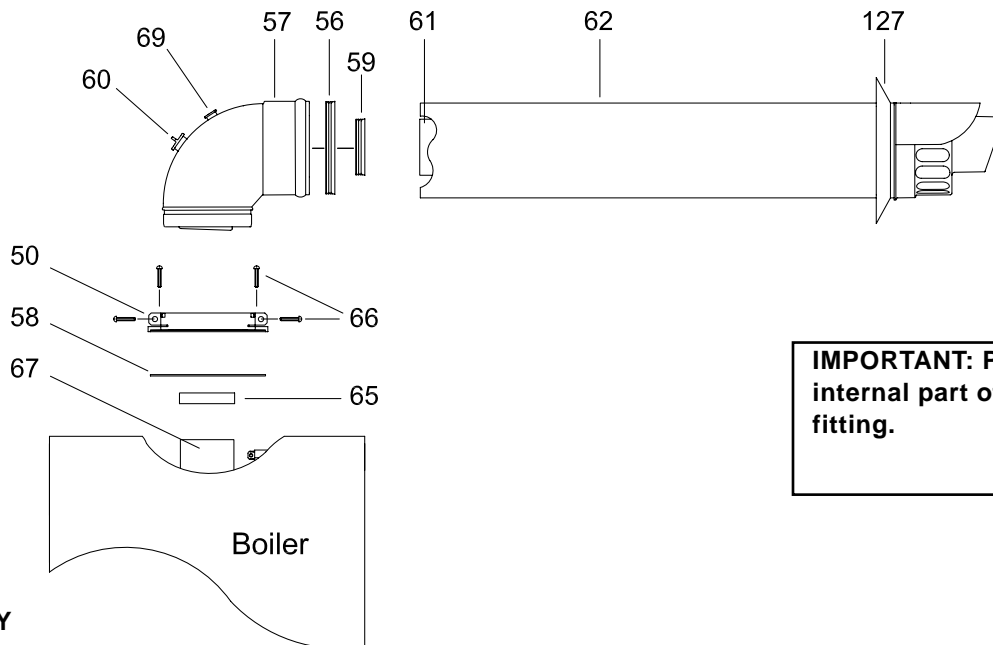

Fig.17
Important: Make sure that the dia 60 mm on the elbow header is inserted fully into the flue manifold, and the flue manifold rubber seal is correctly fitted. (Fig 17 item 65)
Important: Make sure that the dia 60 mm on the elbow header is inserted fully into the flue manifold, and the flue manifold rubber seal is correctly fitted. (Fig 17 item 65).
If an extension must be shortened, this must be done from the straight end, and not from the widened or tapered end. To measure the pipeline properly all components must be assembled and total length measured before cutting. The straight end of the extension connects to the boiler. The flue output and air intake pipes fits into the boiler header until it stops (fig.17 - 18).
This part of the installation manual covers the installation and fixing instructions of the twin flue eccentric flue duct systems only. When ordering twin flue it must be stated for WH 80/90 (T) range. Typical installation procedures are illustrated by drawings. Remove the front panel of the case (sect.8.1). Unscrew the screw (item 66 fig. 17) on the flue adaptor.